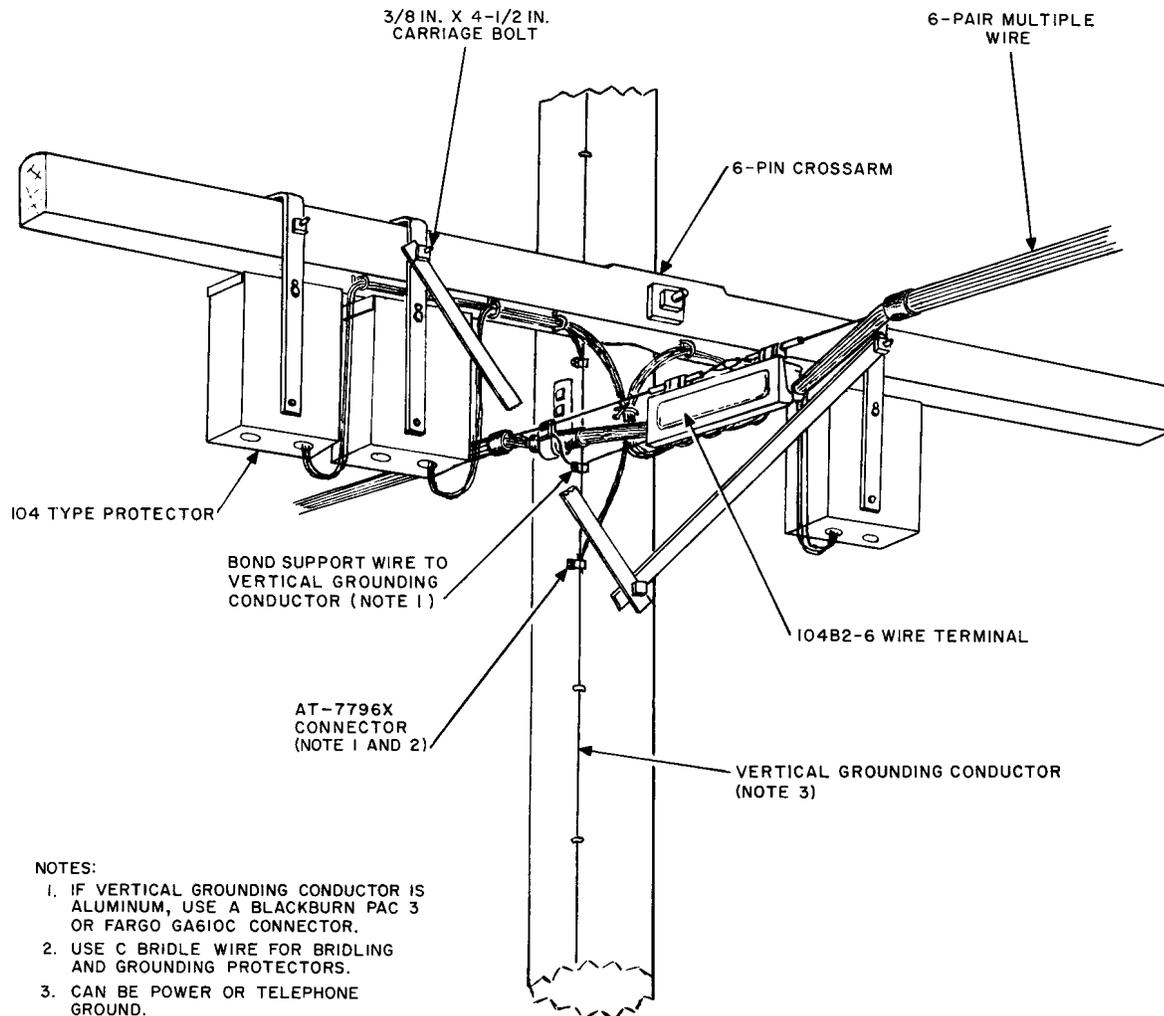
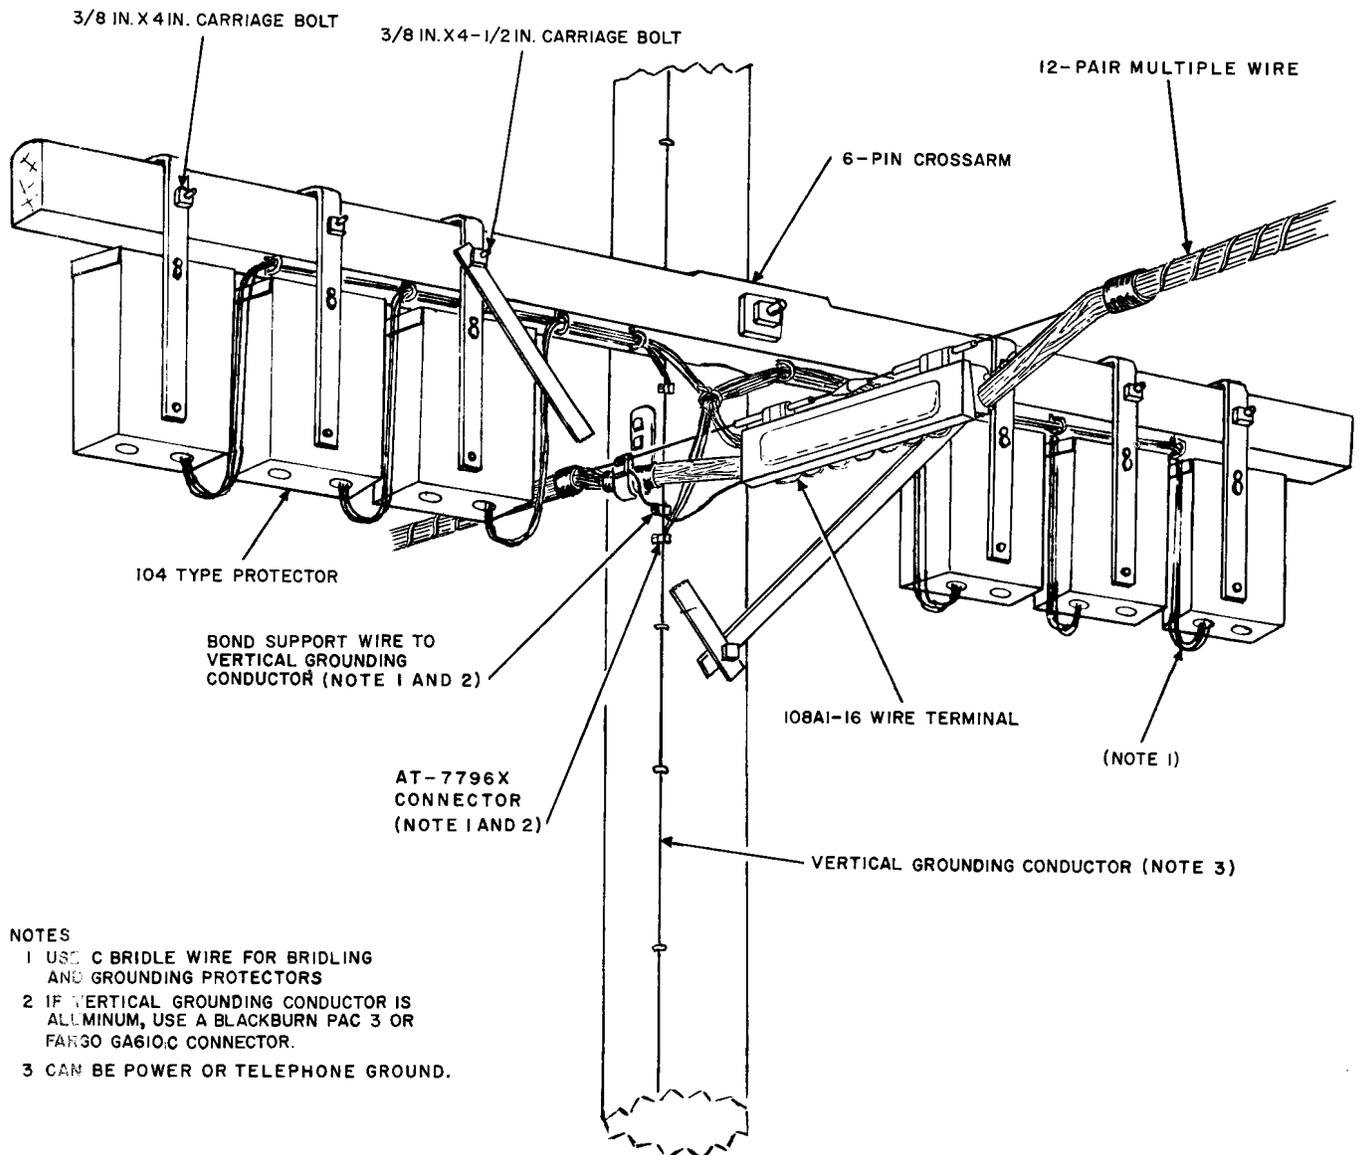

Fig. 8—104-Type Protectors Mounted with 6-Pair Multiple Wire
Fig. 9—104-Type Protectors Mounted with 12-Pair Multiple Wires
6.02 Mounting the 104-type protectors and wiring them to 6-pair and 12-pair multiple wires is shown in Fig. 8 and Fig. 9.